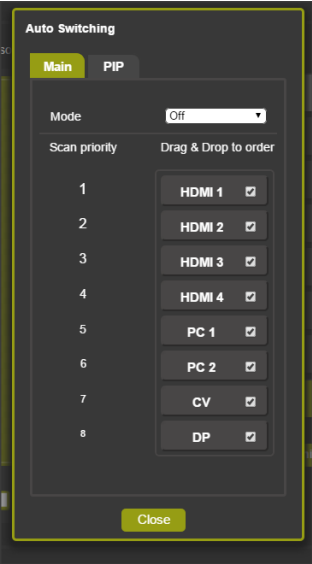

Figure 45: The Routing & Scaling Page – Auto Switching Window (Main Tab)
Click the Auto Switching button to open the Auto Switching window (see Figure 45). The Auto Switching window lets you set the Main and PiP scanning mode separately to:
When Scan mode is activated, the system scans the inputs from the highest to the lowest priority in search of a valid input signal for each the Main and PIP windows. The priority is ordered from the lowest input number (8) to the highest (1). For example, if PC 1 and HDMI 2 have a valid signal and auto switching is enabled, the **VP-773A** will scan through the inputs and select the HDMI 2 which is higher in the priority list (see Figure 45). Once the signal is no longer valid on HDMI 2, the **VP-773A** will scan for the next highest-priority valid signal.